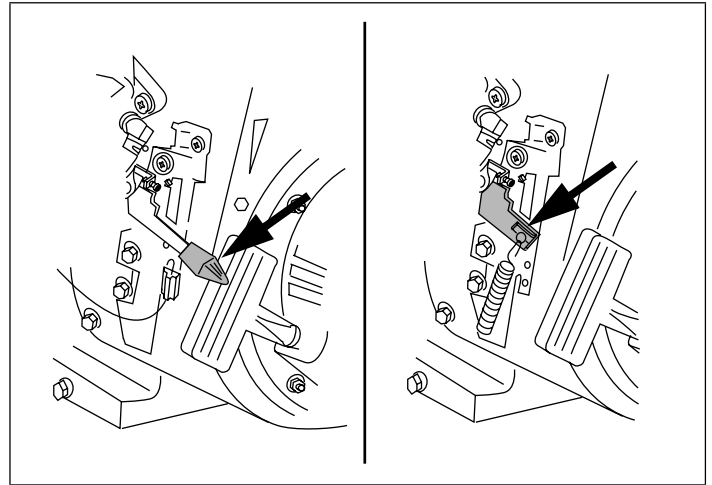

Figure 20. Engine Mounted Speed Controls
- b. Move Choke Control to "1/2 CHOKE" position until engine runs smoothly. See Figures 20 thru 22.
- a. *Momentarily move Choke Control back to "FULL CHOKE" position. See Figures 20 thru 22.*